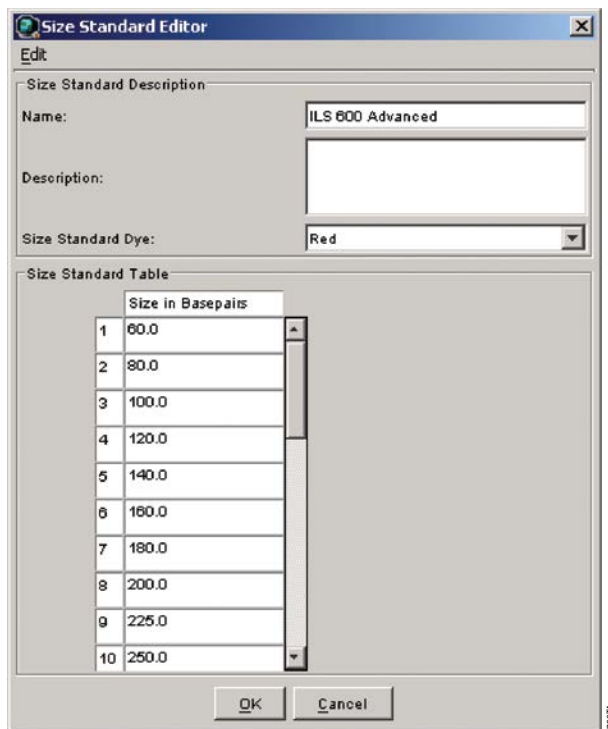

Figure 19. The Size Standard Editor
5. Enter a detailed name, such as “ILS 600 Advanced”, in the Size Standard Editor (Figure 19).